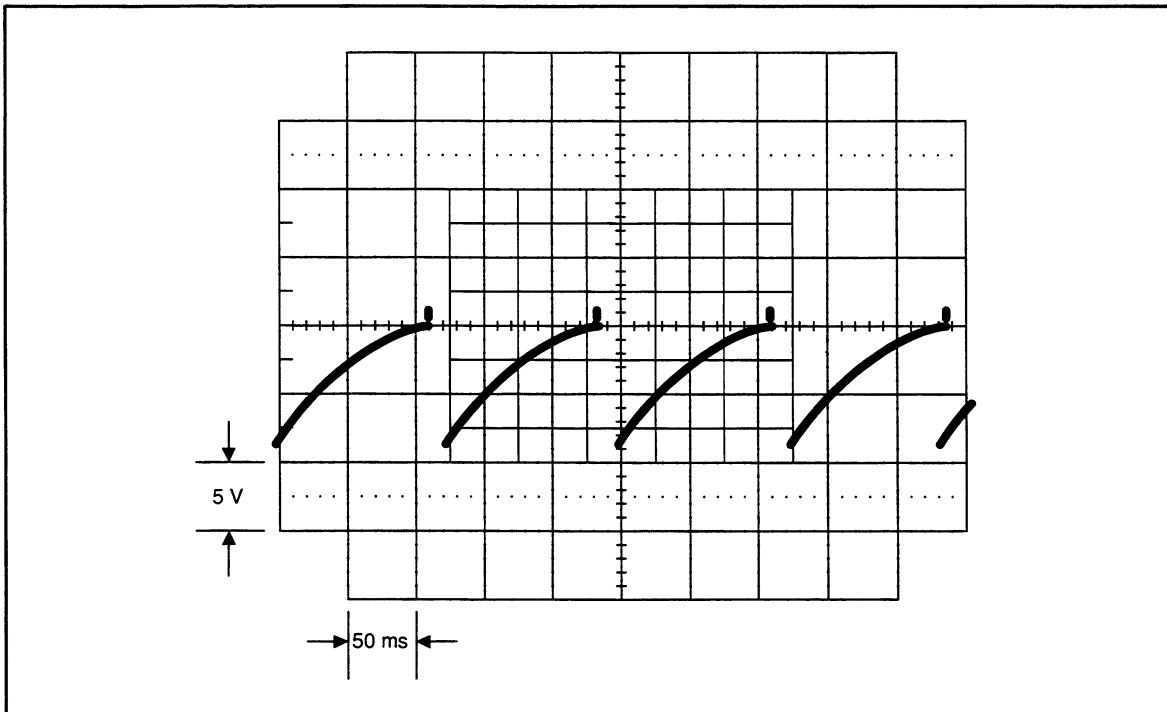

Figure 5-9. Waveform at U112, Pin 1, 5V DC Input
3. Test the level detectors by applying $\pm 5V$ dc to the 2.2V range. The output of pin 1 of U112A with respect to the ac plate should look like the waveform in Figure 5-9 for both positive and negative voltages at the INPUT.